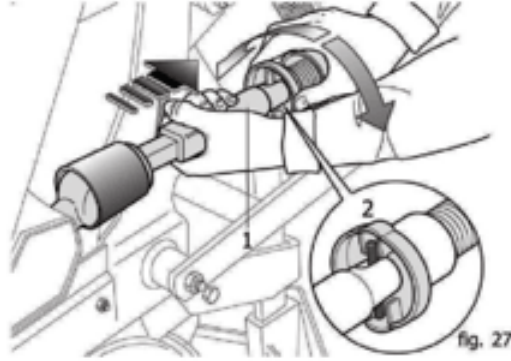

Fig. 25
You can cancel the connection of the unit with axle by following below processes (Fig. 25):
- Push the sleeve (1, Fig. 25) by pressing in the direction of arrow, at the same time turn the ring (2, Fig. 25) until leaving from the pin.
- Pull up the sleeve (1, Fig. 25) backwards to the end.